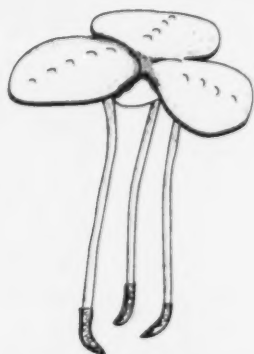

Figure 5 - Duckweed Plant
6. You are now ready to place the duckweed into the solutions. Place 12 fronds into each container. One frond is equivalent to one dual shaped "leaf". The duckweed plant pictured in Figure 5 has 3 frond's. Note that the small developing frond is not counted. (You will want to use a hand held magnifying glass to view the plants since they are quite small).